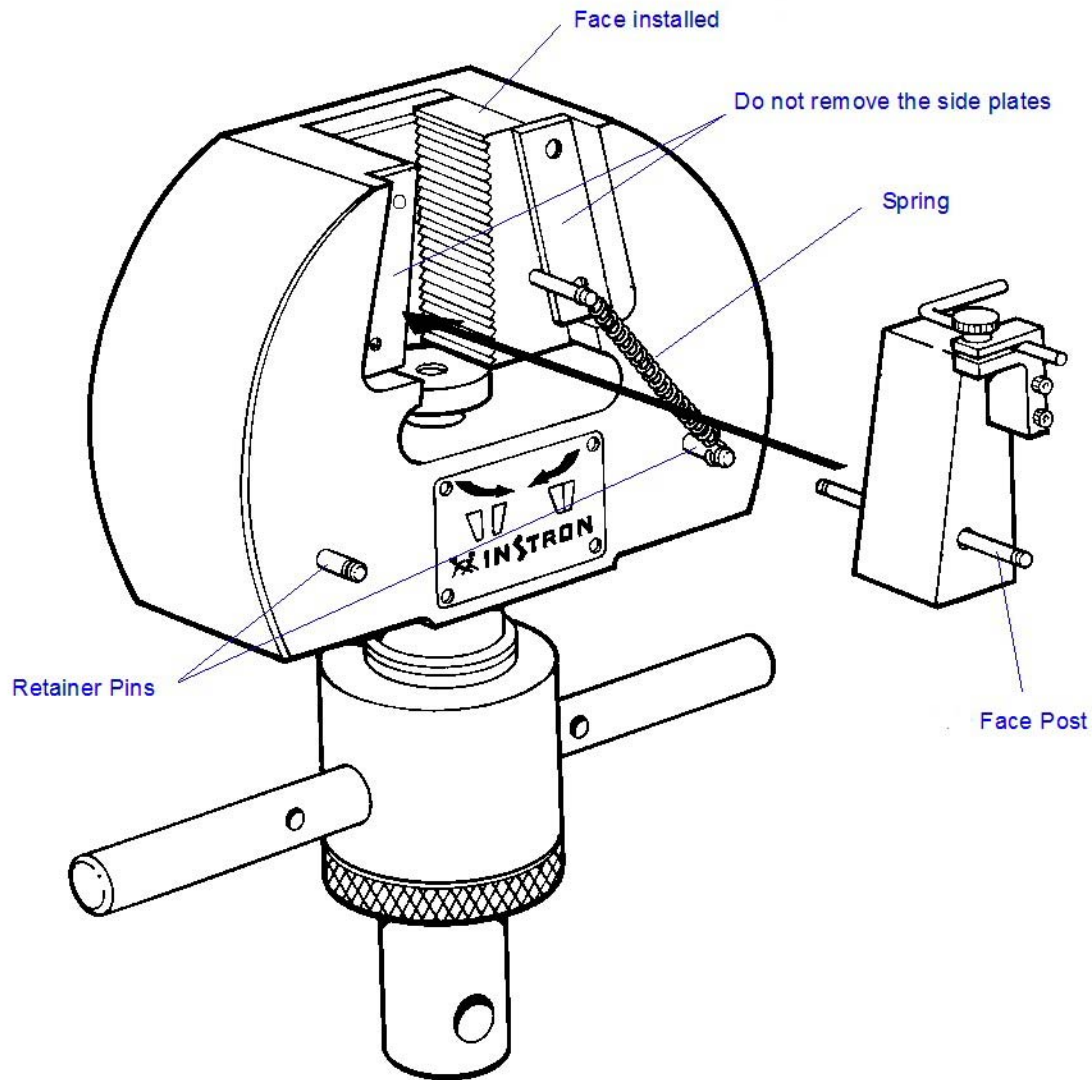

Figure 7. Installing a Jaw Face
2. Place the jaw face, with the taper facing the head wedge, in the center of the head slot and slide it towards the wedge. Figure 7 on page 29 illustrates the jaw face installation.